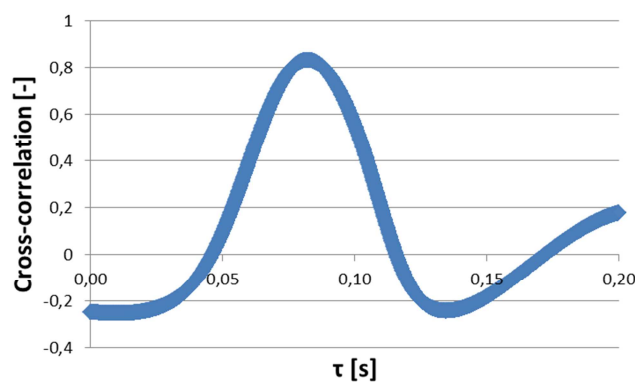

Figure 4: The cross-correlation function.
3. step: The cross-correlation function is presented on Figure 4. This function has a local maximal value (0.7 – 0.9) which determines the t^* time dilate. (In this case the time step is practically equal with the original time step.) The actual value of t^* is $t^* = 0,0822$ in the presented case. From this time dilate knowing the length of the pipes, and the pressure wave velocity can be also calculated ($a = \frac{L}{t^*} = \frac{10 \text{ m}}{0,0822 \text{ s}} = 121,6 \frac{\text{m}}{\text{s}}$).